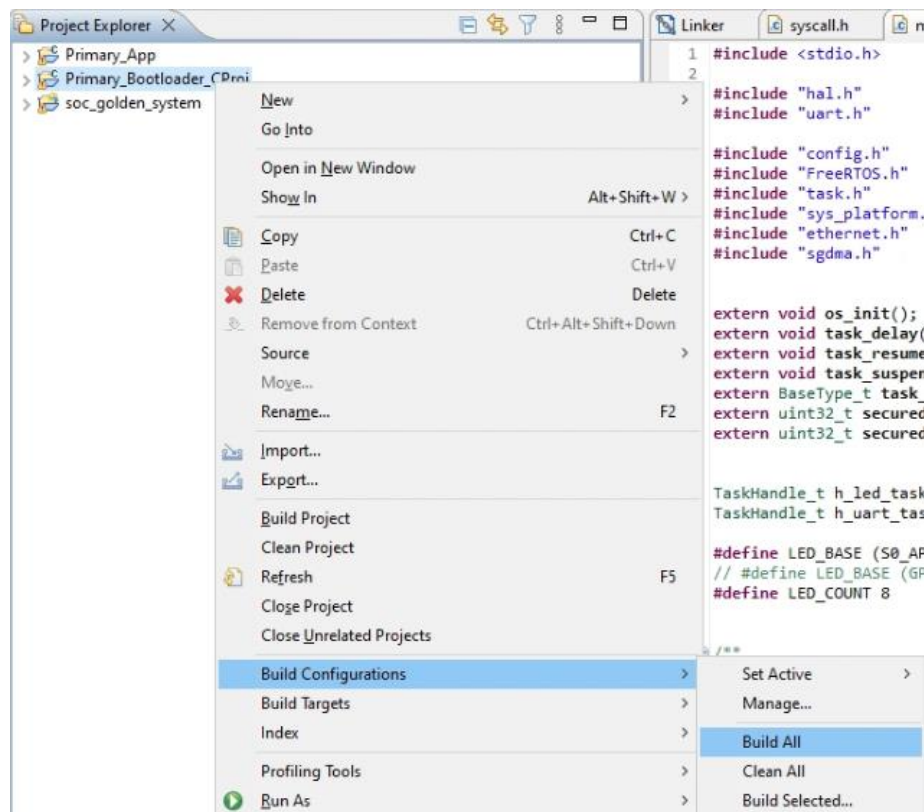

Figure A.8. Build All
- After cleaning, right-click on *Primary_Bootloader_Cproj* and select the option as shown in Figure A.8 to build the project.